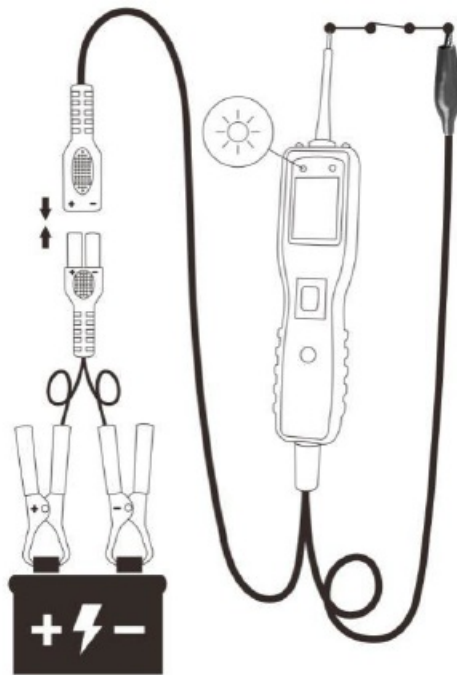

Figure 8
- When the probe tip is contacting a good ground, the LCD will indicate "0.0Ω" and green LED will be on. A beep tone will sound (Figure 8).